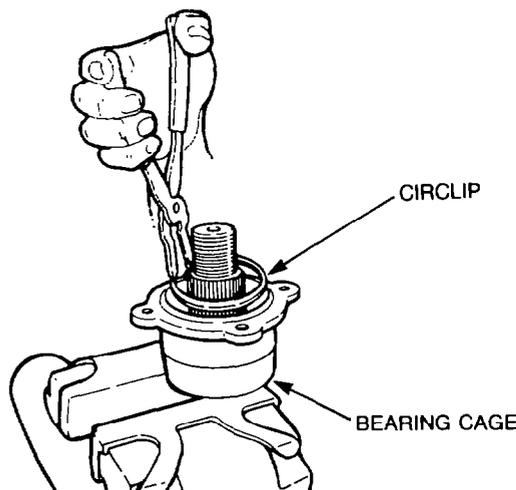

Figure 205 — Removing Snap-ring
- y. Pry the oil seal from the bearing cage, taking care not to damage the bearing cage, then remove the internal snap-ring and spacer from the bearing cage using suitable pliers (see Fig. 205).